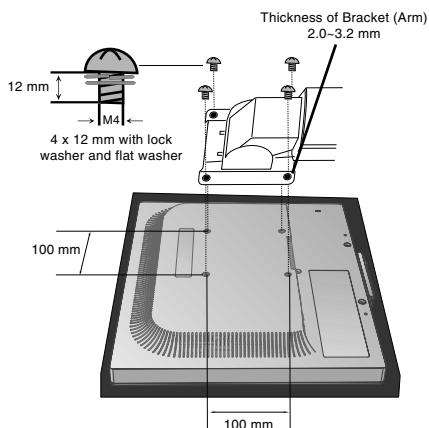

Figure F.1
2. Use the 4 screws and attach the arm to the monitor (Figure F.1).